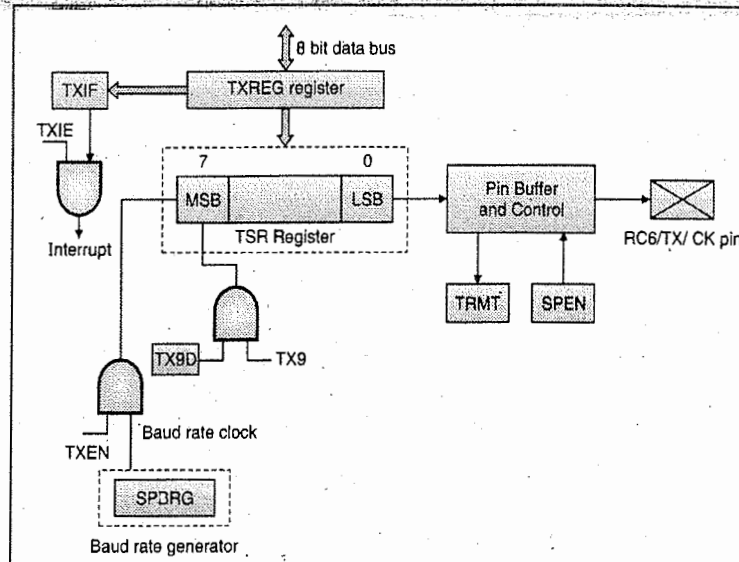
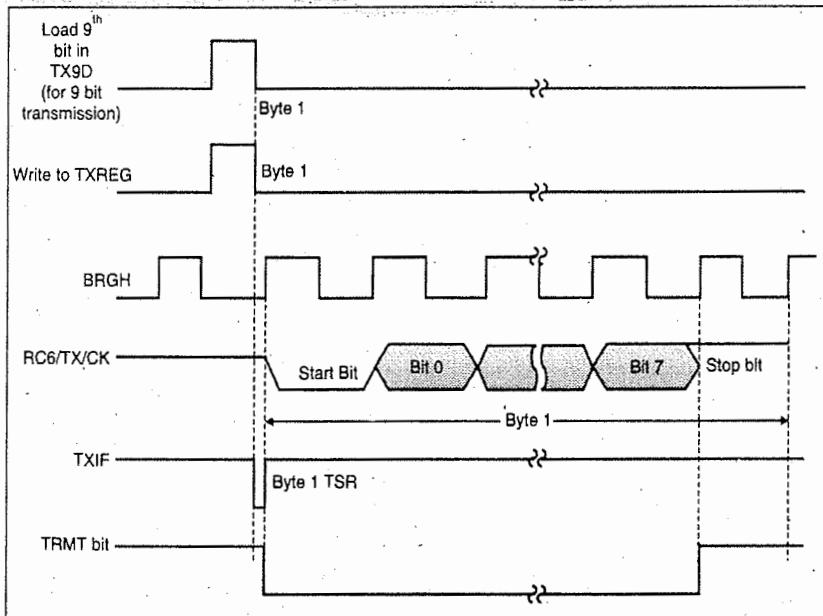

Fig. 12.15.1 : Block diagram of UART transmitter
Fig. 12.15.2 : Timing diagram for 8/9 bit transmission in asynchronous mode
- Fig 12.15.1 shows block diagram the UART transmitter and Fig 12.15.2 shows the UART receiver. Both these sections are functionally independent. However they have same baud rates and employ the same data format.
- Fig. 12.15.1 shows the block diagram of UART transmitter.
Fig. 12.15.2 shows the timing diagram for 8 or 9 bit transmission in asynchronous mode.